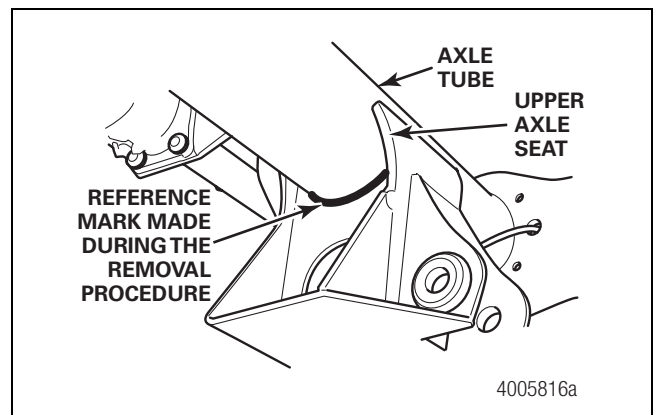

Figure 14
- Use floor jacks to lower the axle into the axle seats and align it with the reference marks on the curbside of the axle. This will center the axle into the seats from side-to-side. Do not use the top center hole on the axle tube as a centering mark. Figure 14.